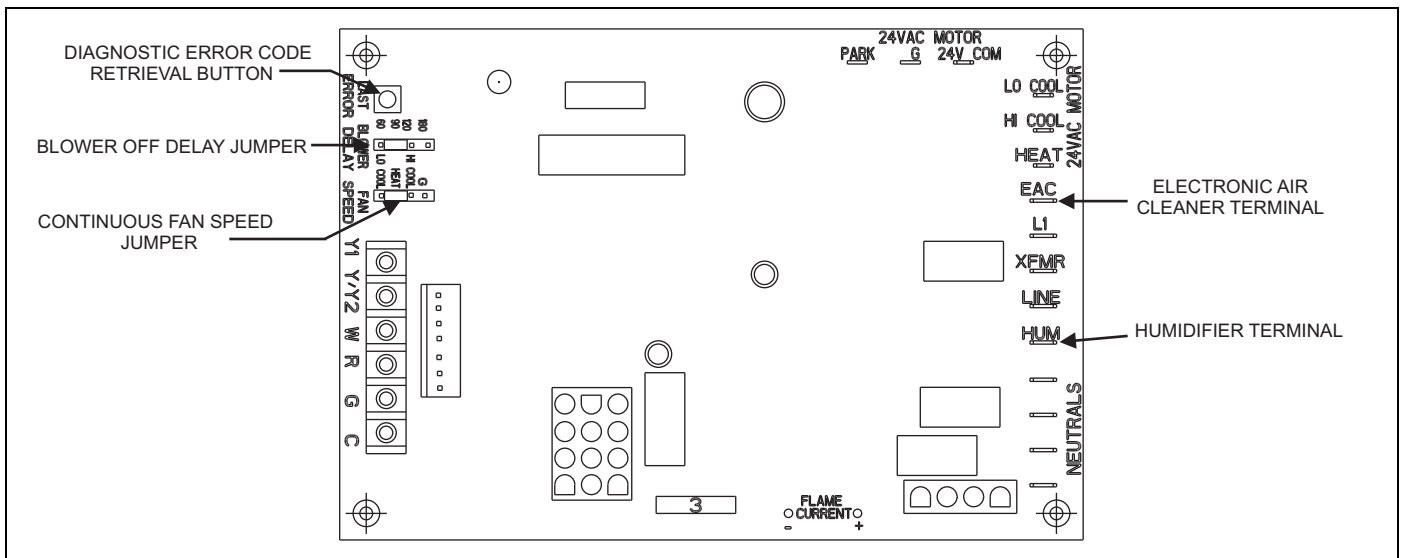

FIGURE 39: Furnace Control Board
Refer to Figure 39 and the unit wiring label to change the blower speed. Place all unused motor leads on the PARK terminal. One PARK terminal is provided. To use the same speed tap for heating and cooling, the terminals must be jumpered together. This control has a continuous fan speed jumper. On a fan call only (G), the control will energize which ever blower tap is selected by the jumper. This control will change blower speeds based on other 24V thermostat inputs (Y1, Y/Y2, W) respectively.
This furnace is equipped with a time-on/time-off heating fan control. The fan on delay is fixed at 30 seconds. The fan off delay has 4 settings (60, 90, 120 and 180 seconds). The fan off delay is factory set to 120 seconds. The fan-off setting must be long enough to adequately cool the furnace, but not so long that cold air is blown into the heated space. The fan-off timing may be adjusted by positioning the jumper on two of the four pins as shown in Figure 39.
When the thermostat switch is set on HEAT and the fan is set on AUTO, and there is a call for heat, a circuit is completed between terminals R and W of the thermostat. When the proper amount of combustion air is being provided, the pressure switch will close, the ignition control provides a 17-second ignitor warm-up period, the gas valve then opens, the gas starts to flow, ignition occurs and the flame sensor begins its sensing function. The blower motor will energize 30 seconds after the gas valve opens, if a flame is detected. Normal furnace operation will continue until the thermostat circuit between R and W is opened, which causes the ignition system and gas valve to de-energize and the burner flames to be extinguished. The vent motor will operate for 15 seconds and the blower motor will operate for the amount of time set by the fan-off delay jumper located on the control board. See Figure 39. The heating cycle is now complete, and ready for the start of the next heating cycle.